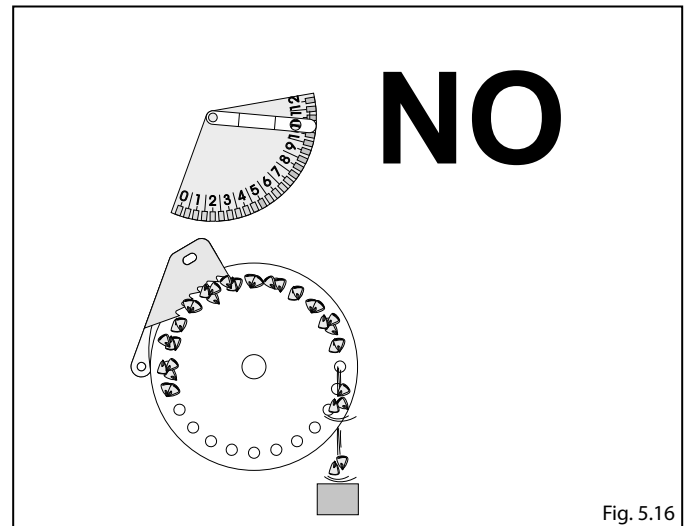

Fig. 5.16
**B)** The holes on the distributor disc downstream the selector have more than one seed per hole (generally two or three) (Fig.5.16).